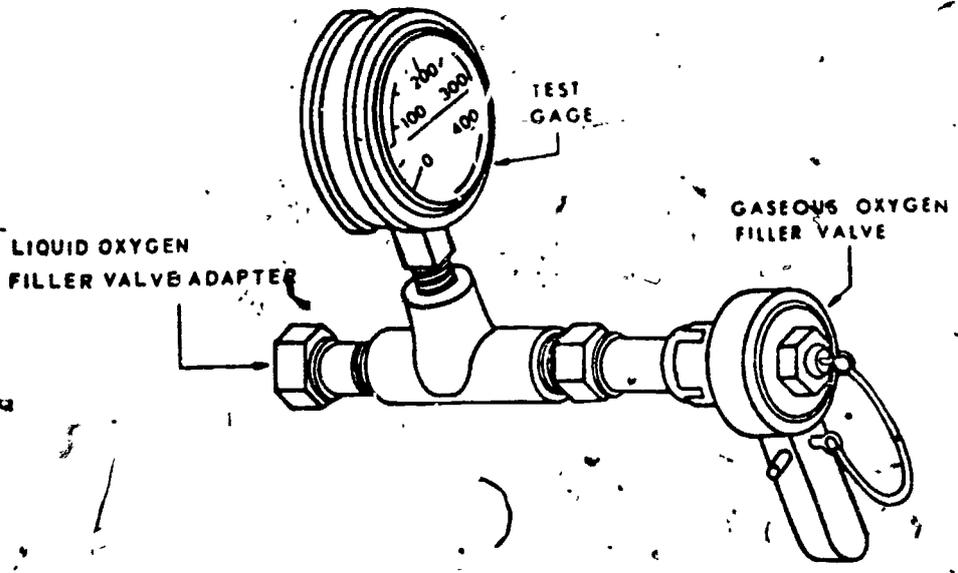

Figure 3. Master Oxygen Test Gage TTU-28/E.
d. Connect the TTU-28/E master test gage to the trainer. Screw the liquid oxygen filler valve adapter of the gage (figure 3) on the threaded part of the liquid oxygen filler valve.
e. Connect the charging valve to the gaseous oxygen filler valve (figure 3) on the master test gage. The gaseous oxygen filler valve is a quick disconnect unit. The adapter on the charging valve will lock automatically.